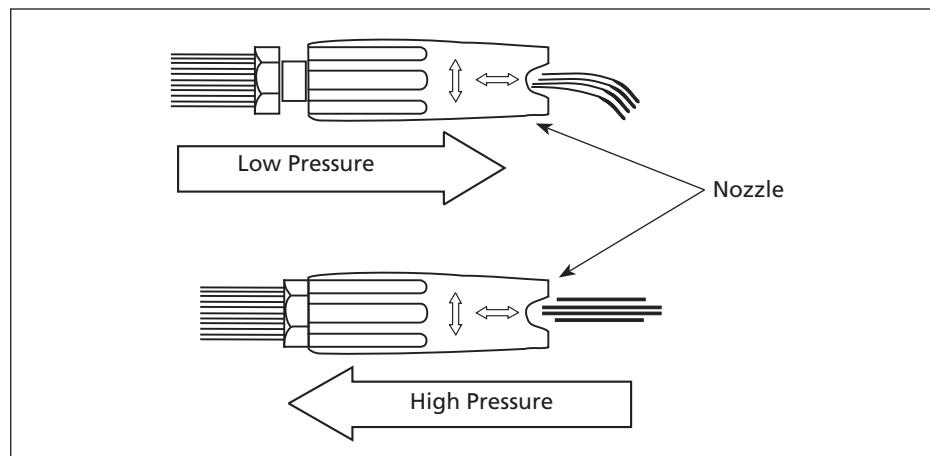

Figure 15 - Adjusting nozzle for pressure
- Place hand around the spraying end section of the lance (the section that turns from left to right). Pull firmly and quickly away from you. (NOTE: Do not adjust lance while spraying.) The lance will extend 1/2 inch and be in low pressure (see Figure 15). Soap can only be drawn in low pressure.